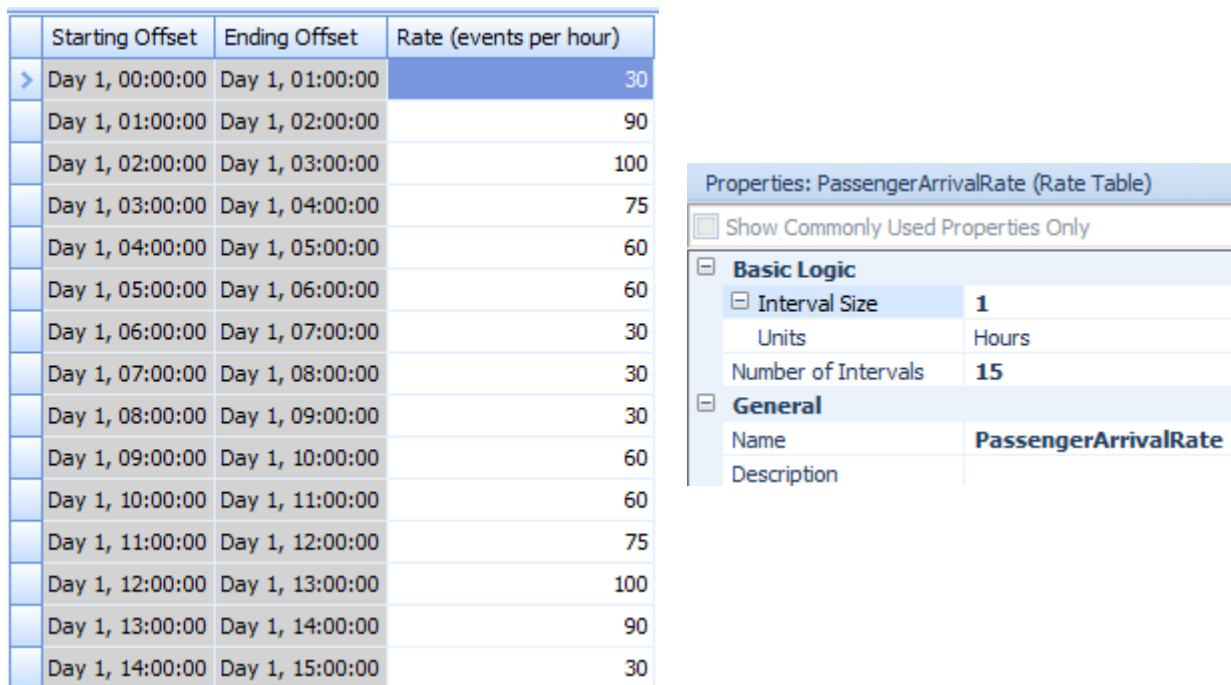

Figure 4.6: The Rate Table (15 intervals)
Step 2: To create a RATE TABLE, select the “Data” tab and then click *Create* → *Rate Table*. Name the table **PassengerArrivalRate**. Set the *Interval Size* to one hour and the *Number of Intervals* to 15, corresponding to the run length as seen in Figure 4.6. While you can modify the size (e.g., half hour increments) and number of time intervals during which the arrival rate is constant, you cannot modify the rate, which is fixed at *arrivals per hour*.
Step 3: Enter values in the rate table as shown in Figure 4.6.